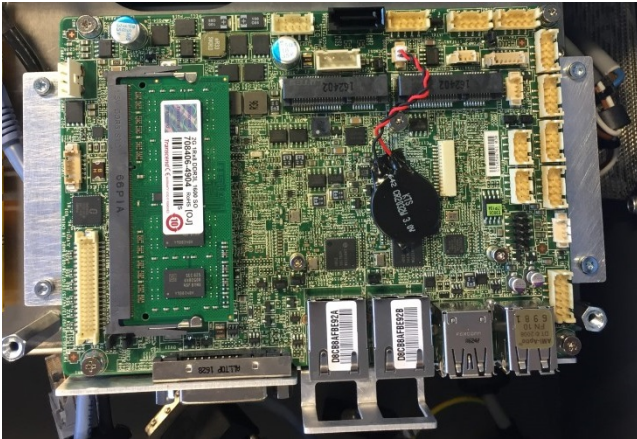

**Figure 1**
- Mount the smaller standoffs where the motherboard screws were before. Place the black cable from the Teach Pendant and the Ethernet cable on the left side of the Standoff as shown on the photo. Note: If your Ethernet cable has a black plug (Figure 1) at one end, then this end must be connected to the Safety Control Board.